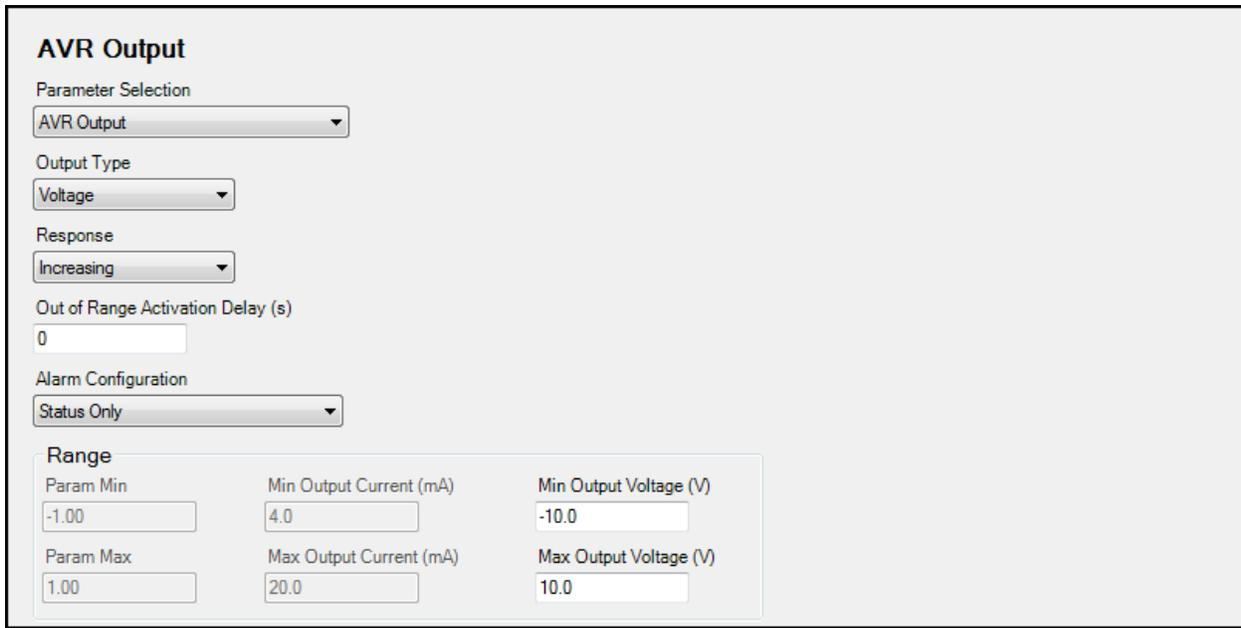

Figure 13-9. Settings Explorer, Multigen Management, AVR Output
23. Open the AVR Output screen in the Settings Explorer, under Multigen Management. On this screen, select the bias output parameters and levels as required by the voltage regulator. See Figure 13-9.
- d. Min Output Voltage (V) and Max Output Voltage (V) - If the Output Type is Voltage, these parameters must be configured. Set the minimum and maximum voltage to a range equal to the voltage bias input range for the voltage regulator. The range on these parameters is -10 V to +10 V.